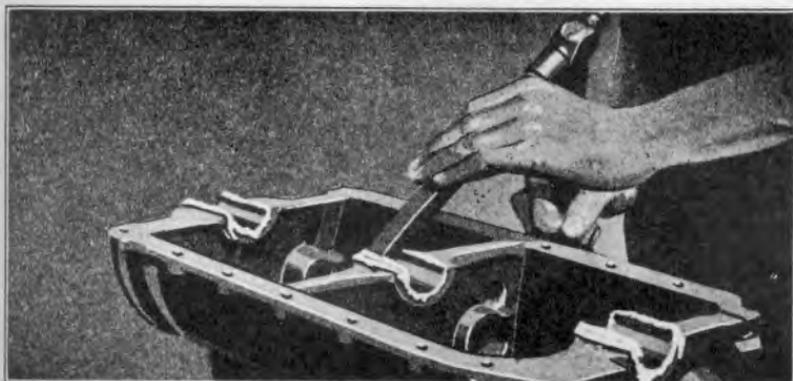

Fig. 151
- 231 The next operation is to cut off the surplus babbitt from top of bearings. When performing this operation the chisel should be inserted from the inside of the bearing as shown in Fig. 151.